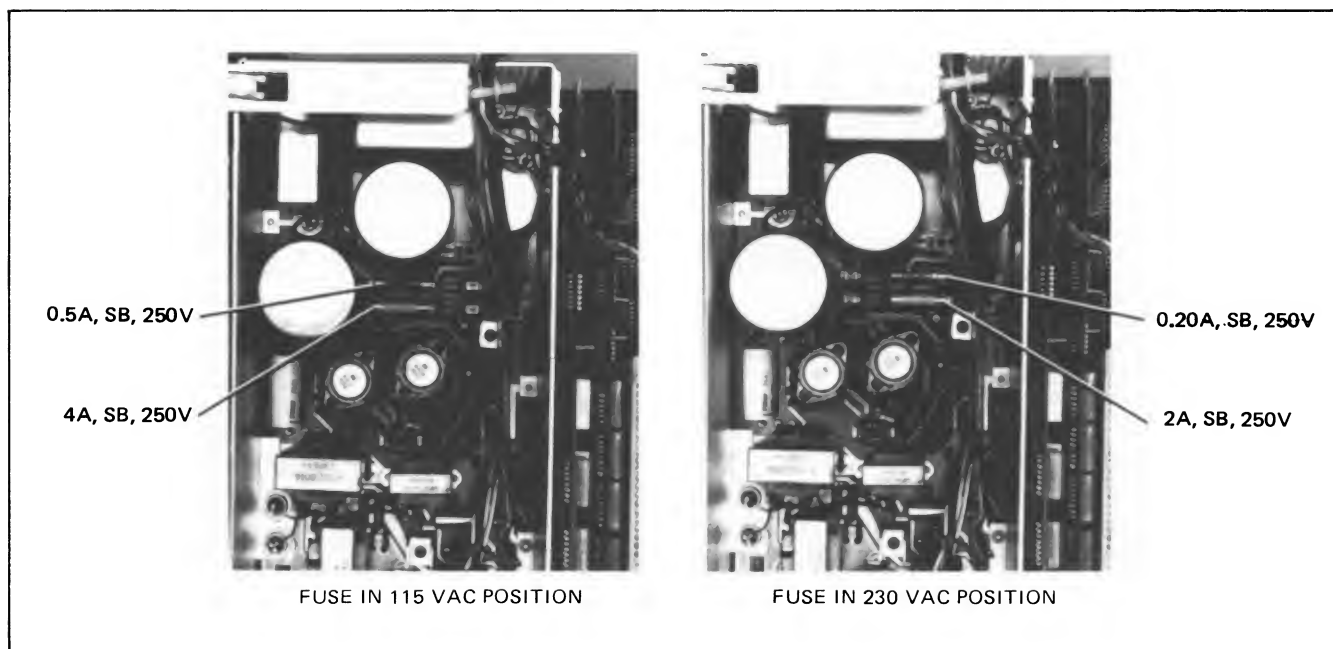

Figure 7-4. Fuse Positions for 115 VAC and 230 VAC Line Voltage
3. () Select the operating voltage by inserting the proper fuses into the appropriate locations shown in figure 7-4. For 115 volts, use a 0.5A, SB, 250V fuse and a 4A, SB, 250V fuse. For 230 volts, use a 0.20A, SB, 250V fuse and a 2A, SB, 250V fuse.